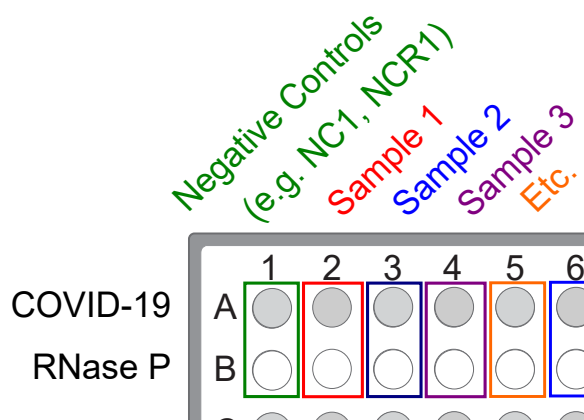

Figure 4 Paired sample and Negative Control wells for each assay
- Unseal the extraction plate, then add the first Negative Control from the single well of the extraction plate to wells A1 and B1 of the reaction plate, as shown in Figure 4 on page 60.